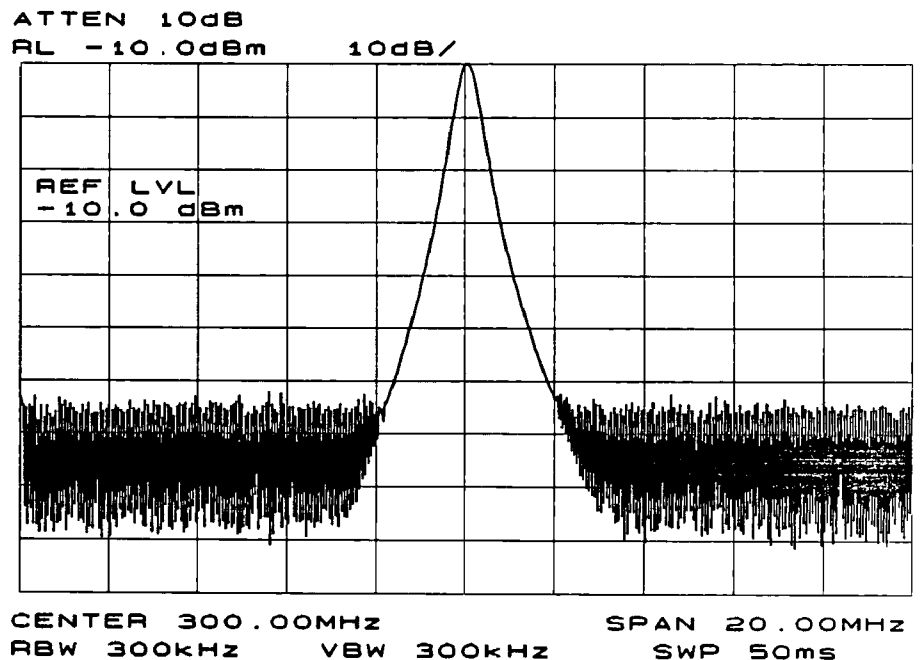

Figure 1-9. Frequency, Span, and Amplitude Set for Calibration
2. Set the center frequency to 300 MHz, the span to 20 MHz and the reference level to -10 dBm. See Figure 1-9.